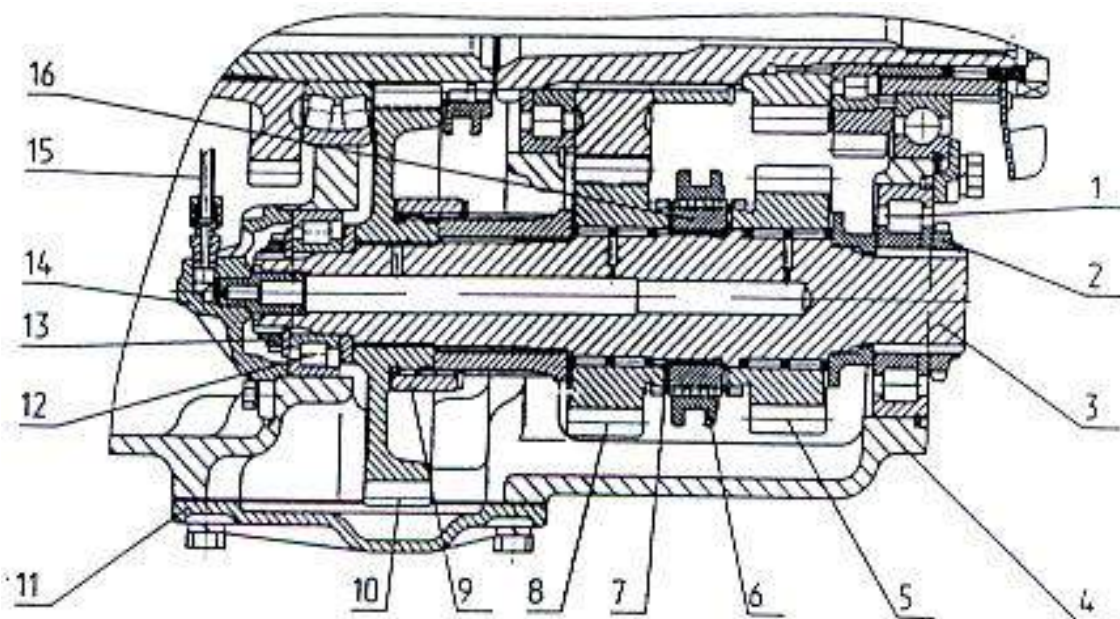

Fig. E-15.2 Downshift and reverse gear shaft:
**The downshift and reverse gear shaft 3** (see Fig. E-15.2) is mounted in the body (4) and rests on bearings (1 and 12). The shaft also carries a driven pinion (10) which is coupled to the shaft through bushings (9), forward driving pinion (8) and reverse pinion (5) running in needle bearings. These pinions are coupled with the shaft through a toothed coupling (6). Bushing (16) which sits on male splines of the shaft is locked on the shaft by means of a retaining ring (7).
In the casing (1), the fork (37) for changing-over the toothed coupling (36), the fork for changing-over the toothed coupling (6) (see Fig. E-15.2) and the fork (18) for changing-over the synchronizer (26) (see Fig. E-15.1) are mounted on the dogs. The dogs are locked in the body with ball-point locks.